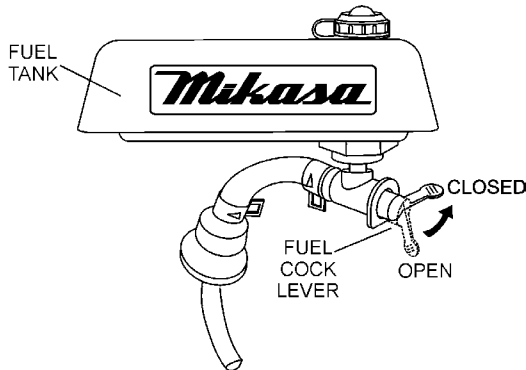

Figure 21. Fuel ShutOff Valve (Closed)
14. Close the fuel shut-off valve (Figure 21) by moving the fuel cock lever to the **CLOSED** position.